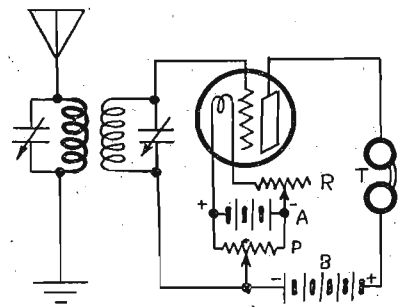
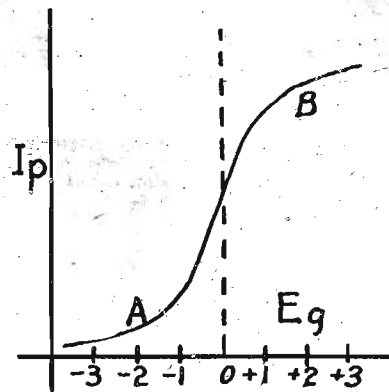
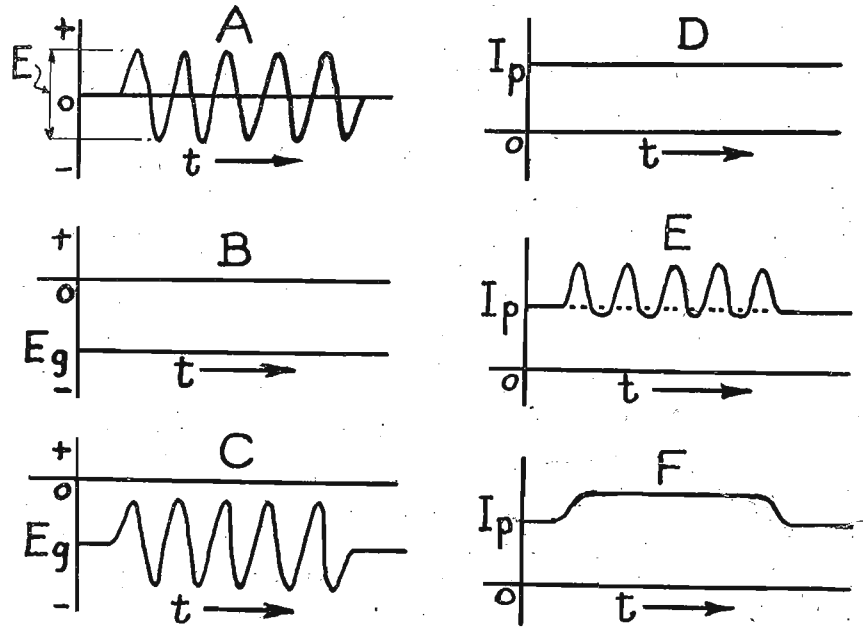

Figure 14
Figure 15
Figure 17
In Figure 14 we have shown a conventional two circuit receiver connected with a vacuum tube detector, batteries and telephones. We will not discuss in detail the arrangements for absorption, selection, and amplification of the electromagnetic waves by electrical resonance in the receiving circuits, but will assume such arrangements in operation and impressing high frequency alternating potentials between the filamentary cathode and the grid of the
In Figure 15 we reproduce again a characteristic curve of a three electrode tube to make clear the operation of the circuit shown in Figure 14. Since the current controlling resistance (R) is inserted on the negative side of the A battery circuit with the filament, it is obvious that a negative potential lower than that existing on the negative filament terminal may be obtained. We remember from our previous studies that it is better to use the lower rectifying bend (A) rather than the upper bend (B) for two reasons; first, because on bend A the plate current is comparatively low so that the drain on the B battery is
In Figure 17 are shown by the various graphs the nature of the phenomena occurring in such a rectifying circuit with respect to potential and current in the various parts. In A is shown a train of continuous unmodulated waves of potential of amplitude E about the zero axis of time, set up across the terminals of the secondary tuned circuit shown in Figure 14.